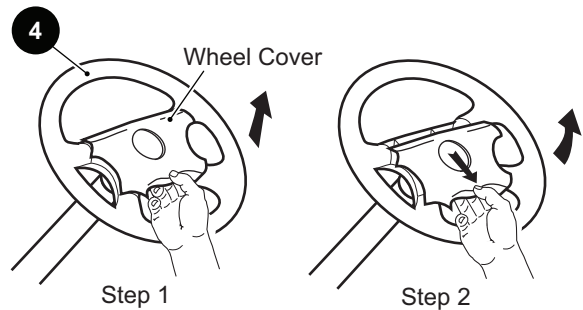

Figure 20 Clipboard Removal
- From the front side of the steering wheel (4), remove the steering wheel cover by pulling straight up on the bottom of the steering wheel cover to release the two bottom retaining tabs. Using thumb for leverage as shown, reach from behind the steering wheel with fingertips to first pull down, and then push up to release the two top clipboard retaining tabs (Figure 20).
8. Inspect the four retaining tabs on the clipboard (5) for white stress lines (Figure 20). If stress lines are present, replace clipboard. Install by carefully pressing the top two, and the bottom two retaining tabs into the matching slots in the steering wheel.